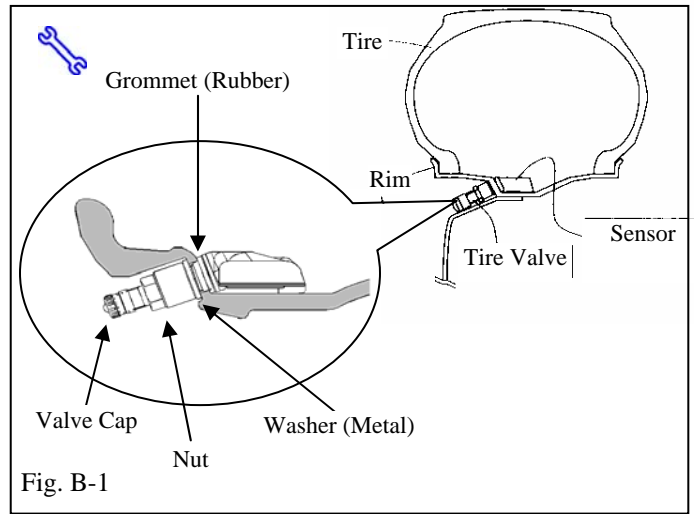

Fig. B-1
5. Insert the tire pressure monitor valve sub-assembly into the valve installation hole from the inside of the rim and bring the valve stem to the outside. (Fig. B-1).